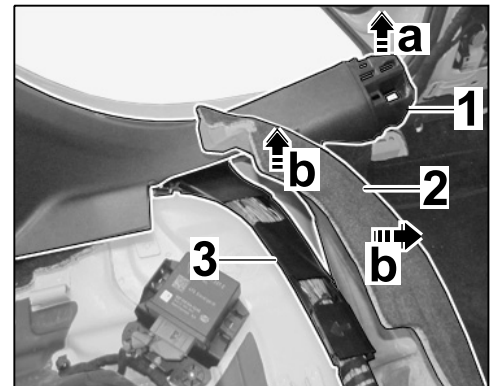

Figure 4
- 1.10 Unclip rear inner door sill trim at the left ⇒ *Figure 4-1-* in the front area from the body ⇒ *Figure 4-arrow a-*.
Lift carpet in front of the rear seat ⇒ *Figure 4-2-* (⇒ *Figure 4-b-*) and expose cable duct ⇒ *Figure 4-3-*.